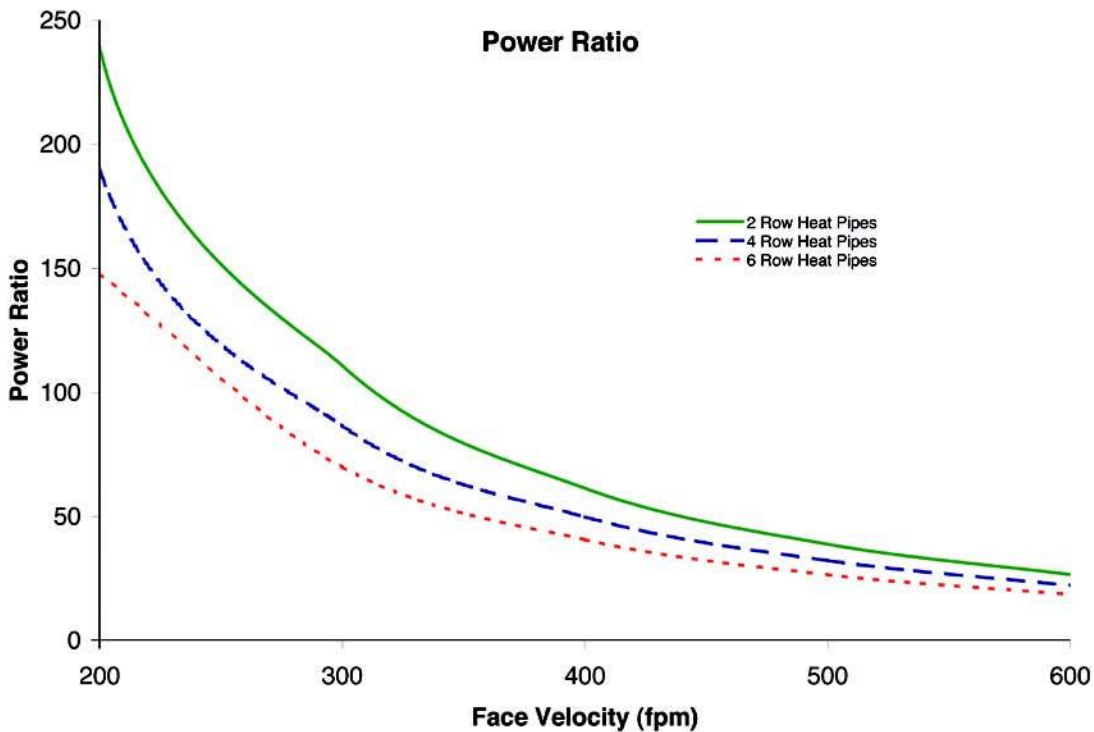

Figure 9
- Heat pipe performance is very sensitive to face velocity. As the face velocity reduces, both the effectiveness (a measure of efficiency) increases and the pressure drop decreases. This double effect has a strong effect on the heat pipe power ratio (BTUH output due to the heat pipes divided by their airside PD penalty measured in BTUH) as shown in FIGURE 9. The lower the cooling coil and heat pipe face velocity, the more efficient the system.